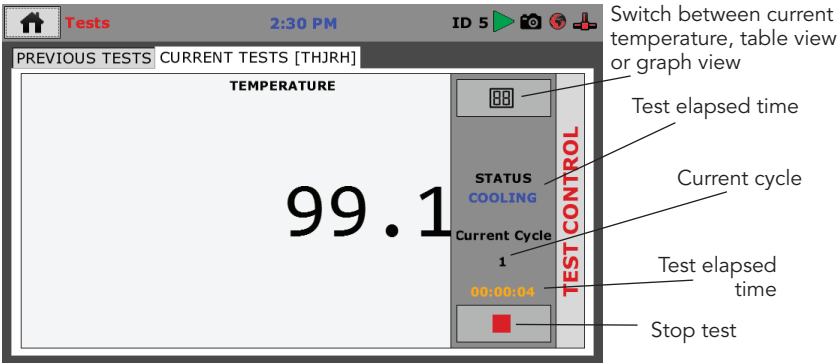

Figure 16
- 5) Pressing the TEST CONTROL bar will open a window as shown in Figure 16. Note this window is only available when a test is running.